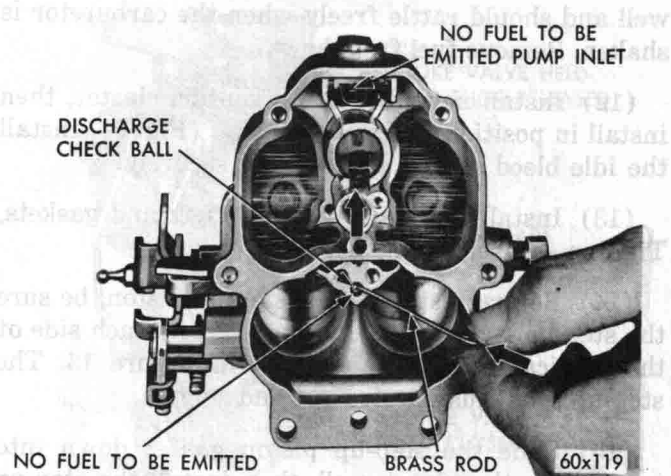

Fig. 12—Testing Accelerator Pump Intake and Discharge Check Balls
(10) Pour clean gasoline into the carburetor bowl, approximately  $\frac{1}{2}$  inch deep. Remove the pump plunger from the jar of gasoline and slide down into the pump cylinder. Raise the plunger and press lightly on the plunger shaft to expel air from the pump passage.
(11) Using a small clean brass rod, hold the discharge check ball down firmly on its seat. Again raise the plunger and press downward. No fuel should be emitted from either the intake or discharge passage, as shown in Figure 12.